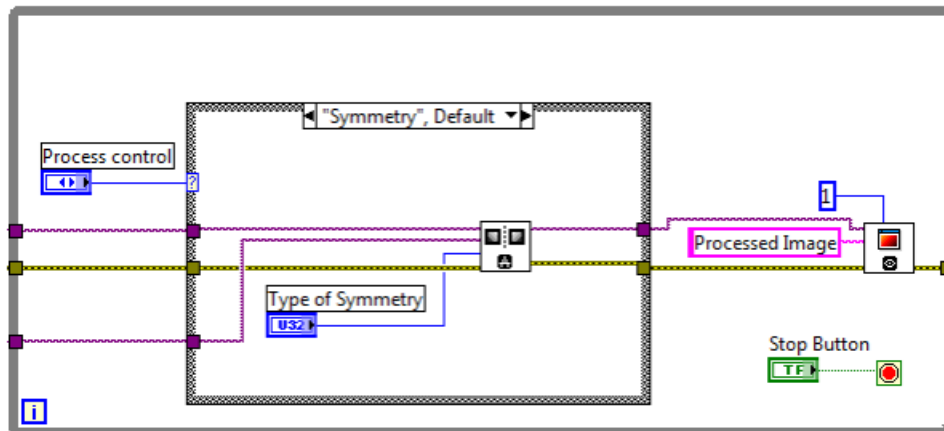

Figure 17: Wiring for Symmetry Case
15. Move cursor to **Type of Symmetry Node** and create **Control**. Make sure the **Control** on the **Front Panel** is on the **Symmetry Page** of the **Tab Control**. Wire the rest of **Symmetry Case** as shown in Figure 17.